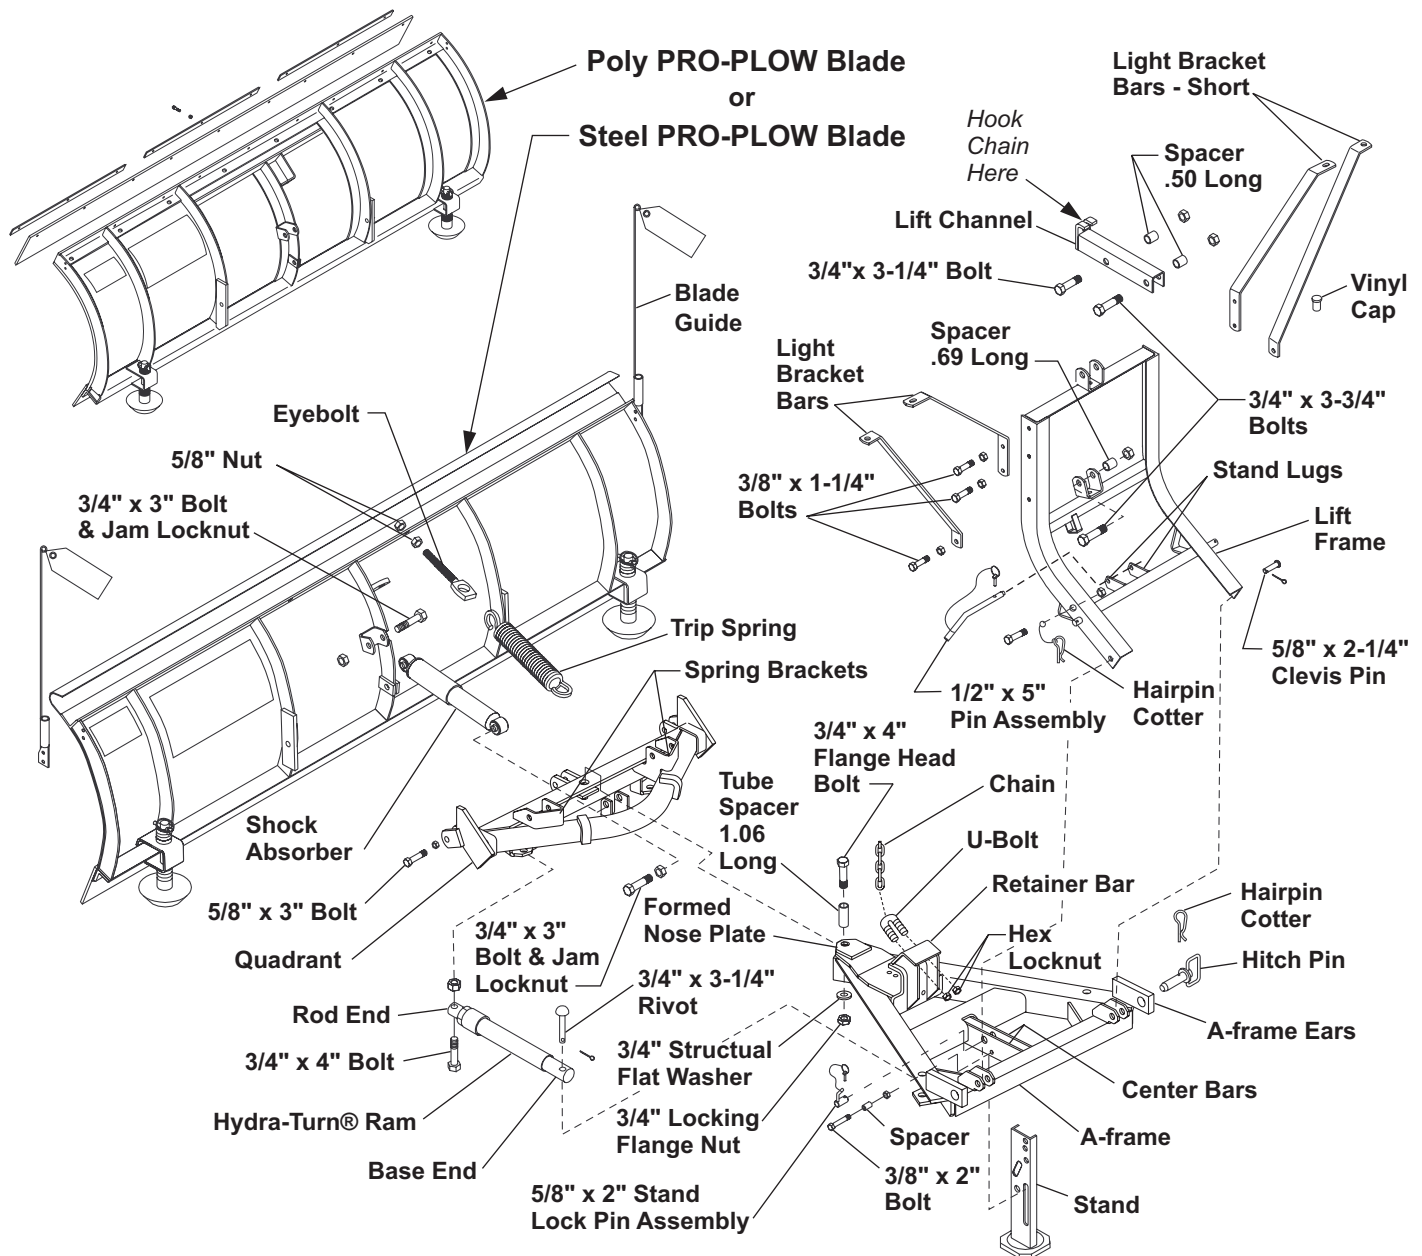

Figure 1
2. Thread one 5/8" nut halfway down on each of four eyebolts. Hook a spring to each of the quadrant brackets indicated in the preceding diagram (see **Figure 1**). Hook an eyebolt to the other end of each trip spring.